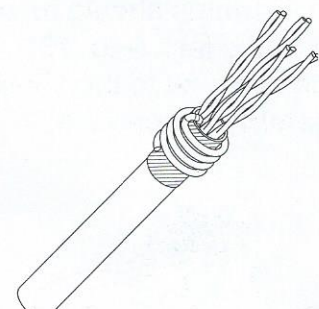

Fig.7
3) Remove shield from three pairs. Use clippers to cut-off foil. Pull the foil shield back from the fourth pair over the jacket and wrap the bundle of braid around the shield. Ensure cable foil's conductive surface is facing out (Fig. 7)